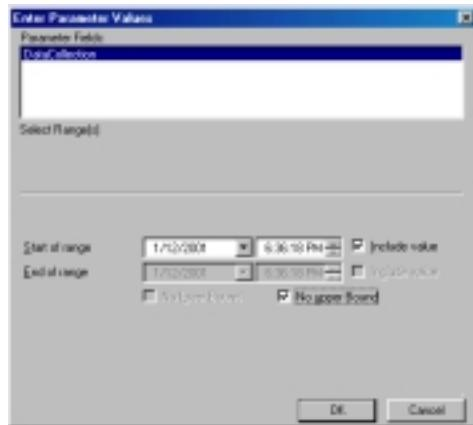

Figure 11.62 Date Range Window
2. A window specifying a date range will appear (Figure 11.62). Enter the beginning and ending collection dates for the desired report. Select the “No upper Bound” option to view a report containing all transactions since the “Start of range” field value or select the “No lower Bound” option to view a report containing all transactions leading up to the “End of range” value.